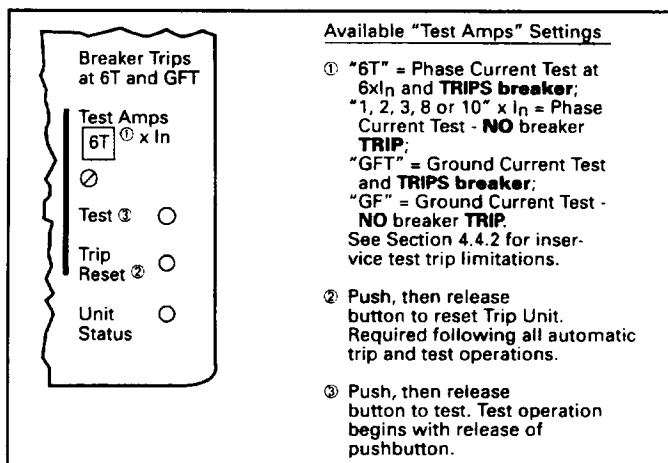

Fig. 9 Integral Test Panel (Lower Right Corner of Trip Unit)
As indicated in Fig. 9, note 1, six different "Test Amps" settings (1, 2, 3, 6T, 8 and 10 x I_n) are available for testing the phase elements of the Trip Unit, and two settings (GF and GFT) are provided for testing the ground element.
1. Place the "TEST AMPS" selector switch (see Fig. 9) in one of the six "No Trip" test settings, i.e., 1, 2, 3, 8, or $10 \times I_n$, or GF.
4. Reset the Trip Unit by pressing and releasing the "TRIP RESET" push-button; all LEDs lighted by the "No Trip" test action should turn "OFF", and the display will again show the value of the current through the breaker. In the event that no one resets the Trip Unit after a test, it will wait for about three (3) hours, and then it will automatically revert back to its pretest status.
2. Place the "TEST AMPS" selector switch (See Fig. 9) in either the "6T" (or "GFT") position.
3. Press and release the (Black) "TEST" push-button (See Fig. 9) — the test starts when the push-button is released and the elapsed time is displayed in the window.
5. Reset the Trip Unit by pressing and releasing the "Trip Reset" push-button (See Fig. 9). All LEDs lighted by the "Trip" test action should turn "OFF", and the display window will again show the value of current flowing in the breaker.